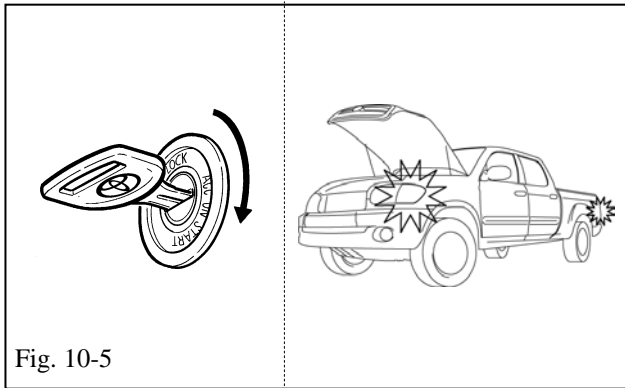

Fig. 10-5
- (h) Start the Engine. (Fig. 10-5)
- (i) After 10 seconds stop the Engine. (Fig. 10-5)